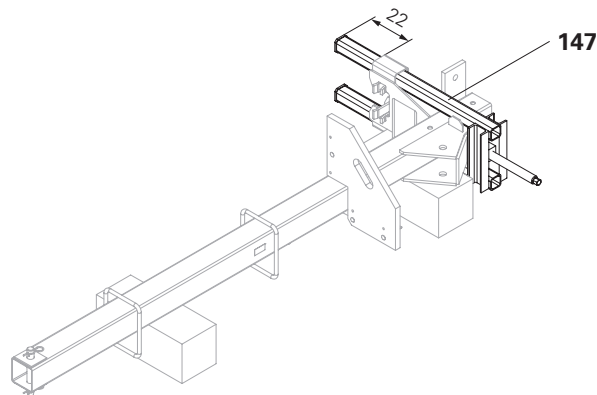

Fig. B9.04
- Extend the slide (**147**) 22 cm. This facilitates the installation of the vertical strut. (Fig. B9.04)